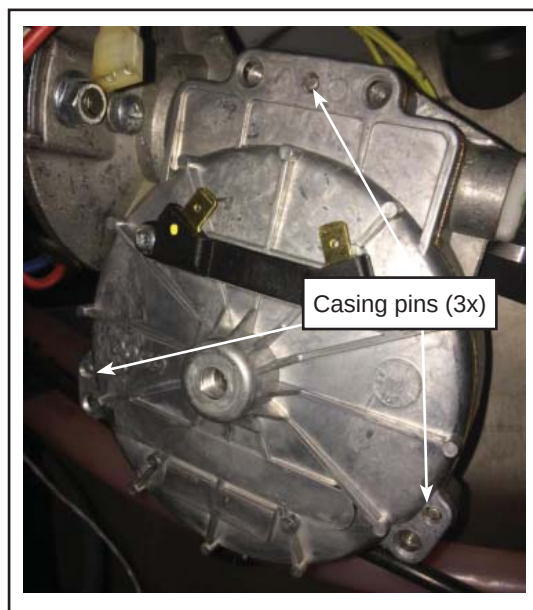

Figure 8 - Dowel Pins in the Wiper Motor Casing
- 1.13. Carefully install the new N8902815 cover on the shaft end and align it with the three dowel pins located in the mechanism casing. See Figure 8.